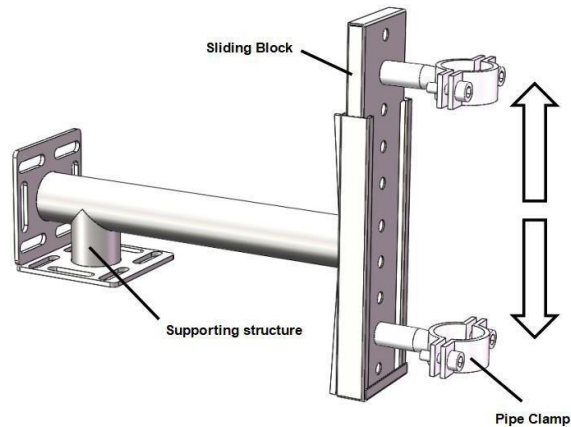

Figure 2 – MA-120-B Submersion Adapter Mounting Bracket
**Submersed Fixed Installation with MA-120-B:** The LT-635 may be installed in a submersed/fixed application using the MA-120-B Submersion Adapter Mounting Bracket (P/N: 50783). The LT-635 sensor should be installed as outlined in Figure 2 and 2A. For installation, the MA-120-B bracket should permanently mounted in a fixed position for easy access to the LT-635 sensor and piping. For sensor replacement and maintenance, users only need to lift (vertically/upwards) the sliding block and conduit with the mounted sensor from MA-120-B bracket. Please note the LT-635 outer diameter is  $\frac{3}{4}$  - inch NPT. A  $\frac{3}{4}$  to 1-inch NPT bushing is required for installation.